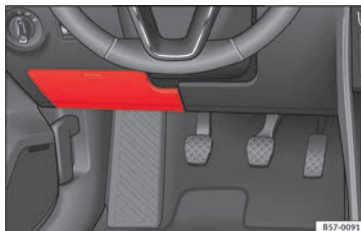

Fig. 102 On the driver-side dash panel (left-hand drive): fuse box cover.
- *Opening*: fold the cover down »» Fig. 102.